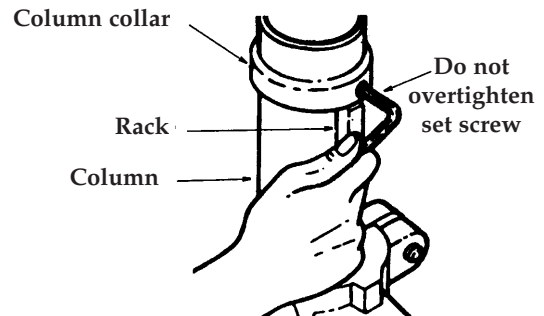

FIGURE 8
8. Check column collar for proper adjustment. The collar should not be angled on the column and it should be positioned so the rack will slide freely in the collar when the table is rotated 360° around the column table. If re-adjusted, only tighten set screw enough to keep the collar in place. NOTE: To avoid column or collar damage, do not overtighten set screw. (Fig.8).